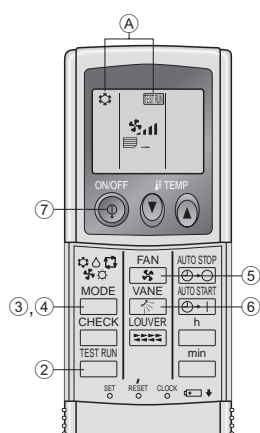

Fig. 7-5
7.2.2. Using wireless remote controller (Fig. 7-5)